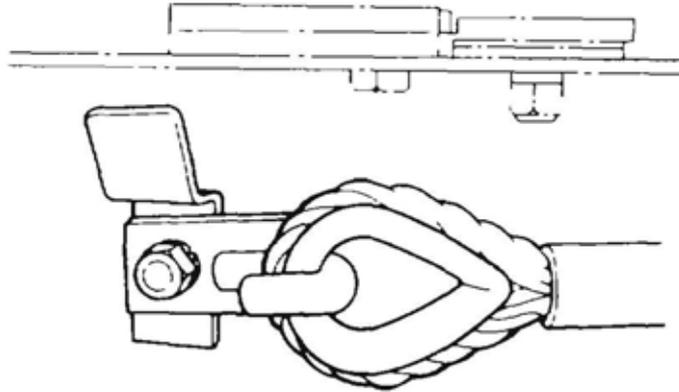

Figure 169 Winch Rope Retaining Hook
**266.** Sheaves and rollers are fitted to the vehicle (Figures 167 and 168) to guide rope over or past the chassis and body of the vehicle giving the rope a clear unobstructed path; however, they do create frictional losses. So where possible, heavy winching should be undertaken from the rear of the vehicle as the frictional losses are high when winching from the front of the vehicle. When winching is completed, shackle the winch rope to the hook provided (Figure 169) when winching from the rear, or to the right-hand towing lug when winching from the front.